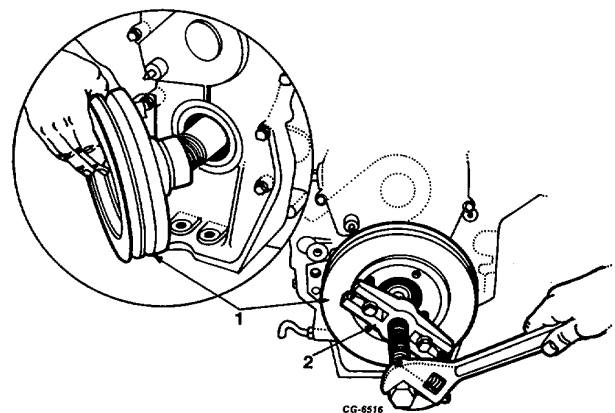

Fig. 51 Crankshaft Pulley Removal
55. Remove crankshaft pulley using SE-1368 puller (Figure 51).